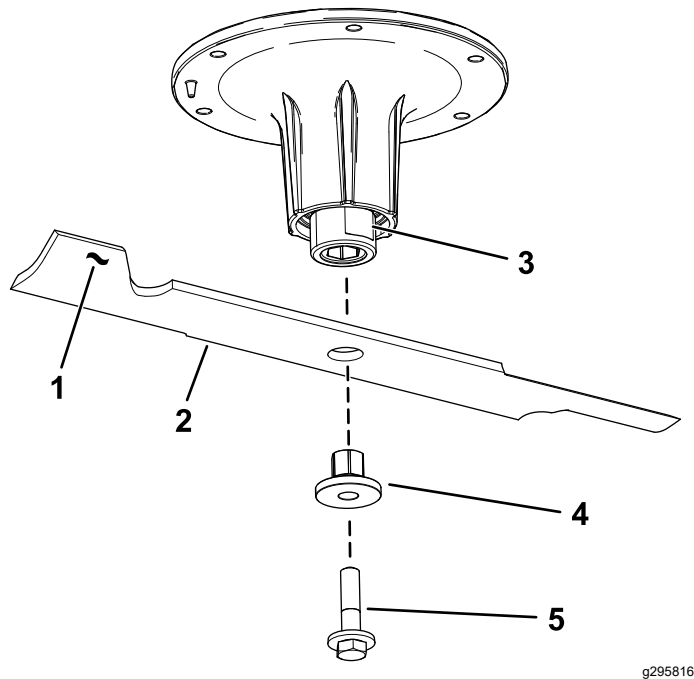

Figure 99
2. Remove the blade bolt, bushing, and blade from the spindle shaft (Figure 99).